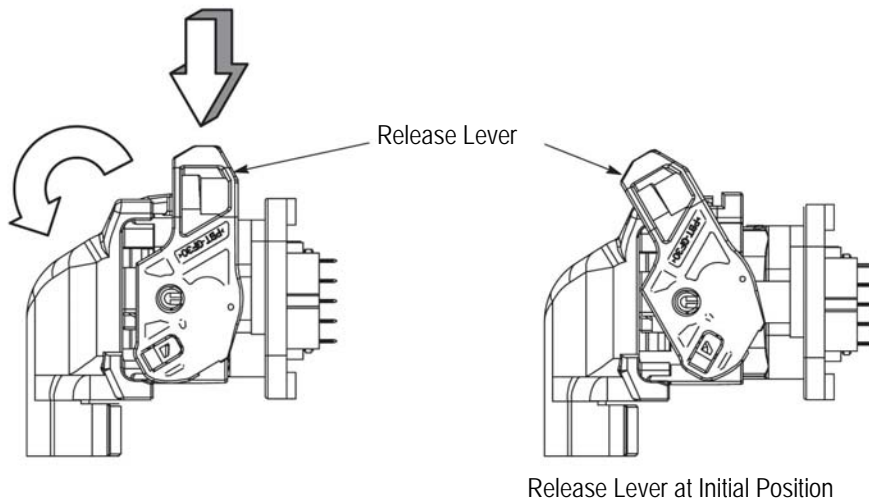

Figure 14
1. Release the lever lock by pressing down on the locking device. See Figure 14.